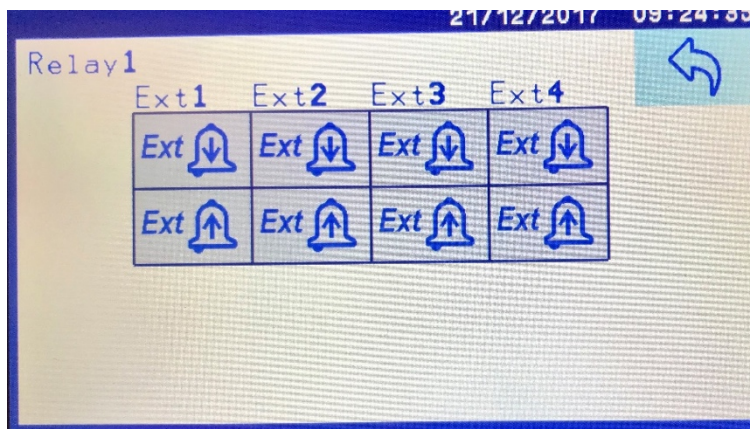

Figure 10-14: Relay Low / Hi alarm fault assignment screen for external mA inputs
There is one external 4-20mA Input per option board. In Figure 10-14 Relay #1  is assigned to the analog Input High and/or Low alarm. Use the Analog Input Section 10.7.1 to assign the actual limit values for the relays to alarm at.
- Touch the  icon to set the Low Limit alarm (Figure 10-14).
- Touch the  icon to set the Hi Limit alarm (Figure 10-14).
- Touch the  icon to return to the relay assignment page (Figure 10-14).